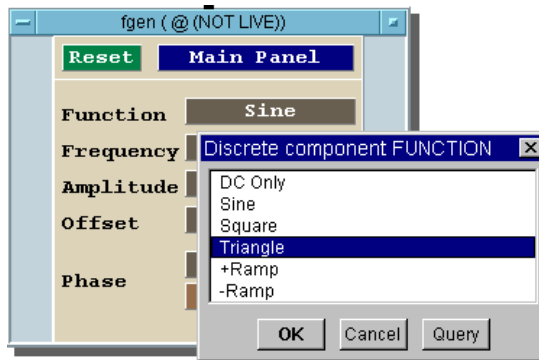

Figure 3-12. The Function Pop-up Menu on fgen
5. Click **Sine** in the **Function** field to get a pop-up menu, and then select **Triangle** as shown in Figure 3-12.